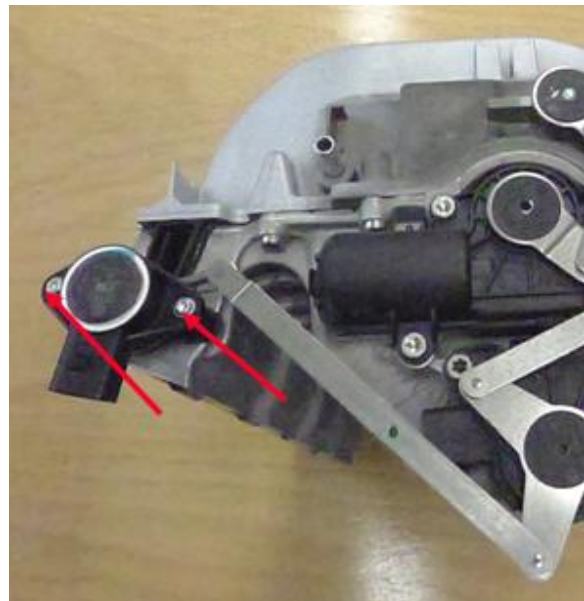

Figure 8. Two bolts to be tightened.
8. Fit the potentiometer then fit the sensor with a light turning movement. Attach it with 2 bolts (M4X14), tightening torque 1.7Nm + 0.2 Nm (Figure 8).